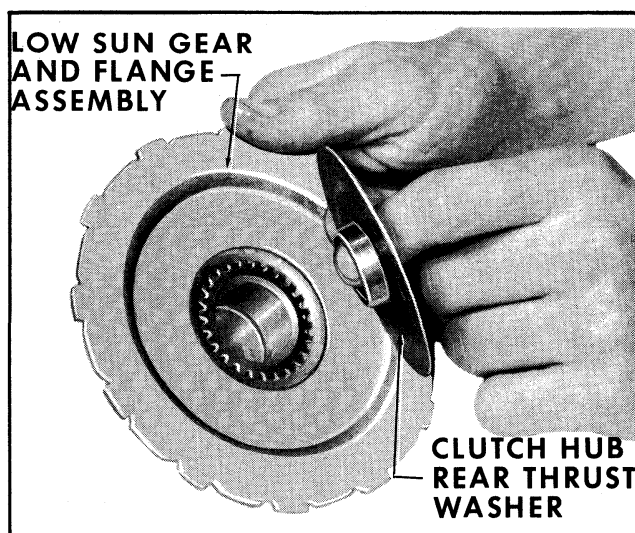

Fig. 7B-84 Installing Clutch Hub Rear Thrust Washer
7. Install clutch hub front thrust washer on clutch hub (retain with petrolatum) aligning tangs in clutch hub with grooves in thrust washer (Fig. 7B-82). Install clutch hub.